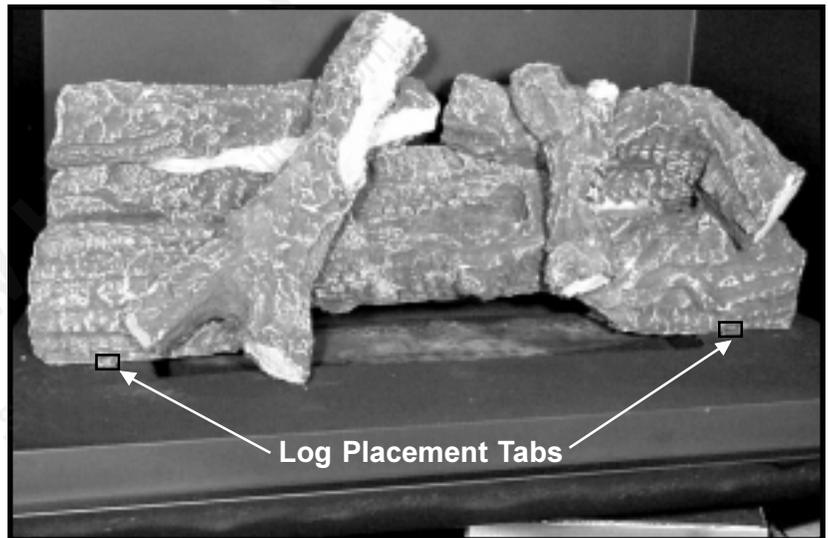

Figure 38
- Carefully position the log set in place into the fireplace. Pull the log set forward until the log set contacts the log placement tabs. Center the log set in the firebox side to side (see Figure 38). (Grate removed for viewing.)